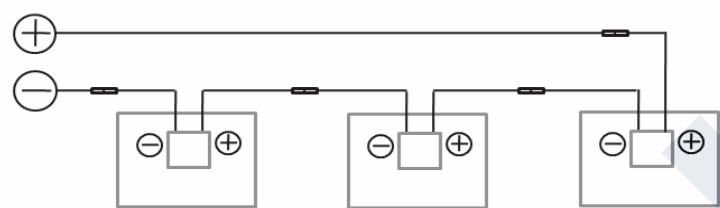
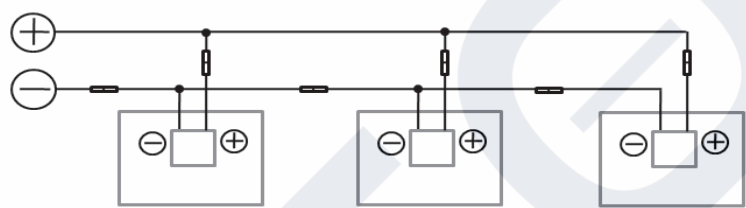
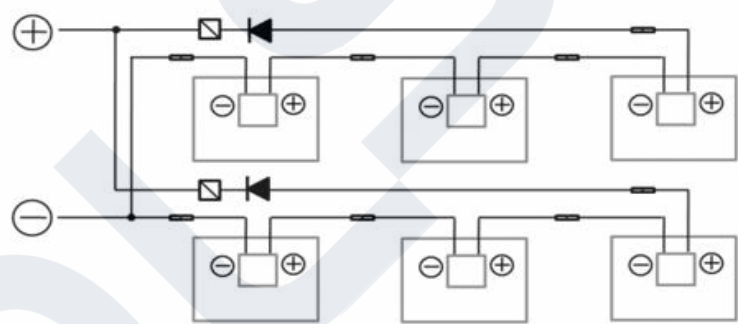

Fig. 10-1 Series Connection
Fig.10-2 Parallel Connection
Fig.10-3 Parallel-series Connection
- The Direct Current (DC) generated by the PV system can be converted to Alternating Current (AC) and connected to the public power grid. Different regions may have different policies, laws and regulations to stipulate the installation and grid-connection requirements of PV systems. Therefore, during the design, installation and grid-connection of PV system, please comply with the local policies, laws and regulations.
- In order to ensure the normal running of the system, when connecting modules or loads, please ensure that the polarity of the cable connection is correct. If the modules are incorrectly connected, the bypass diodes and junction boxes may be damaged. PV modules can be connected in series (Fig. 10-1), in parallel (Fig.10-2) and in series-parallel (Fig. 10-3). The number of serial or parallel connections shall be reasonably designed according to the system configuration. Also note that if the number of parallel connections ≥ 2 , there must be an over-current protection device on each string assembly.